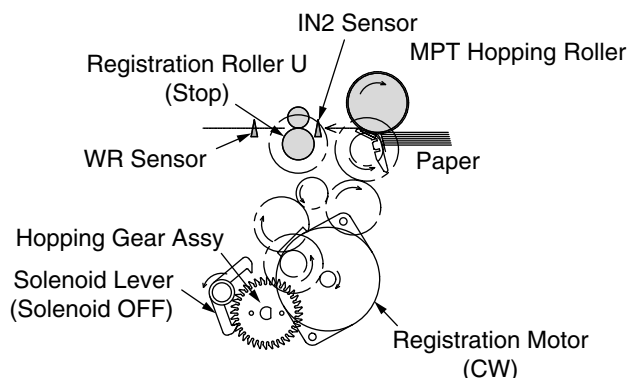

Figure 2-3
1. As illustrated in Figure 2-3, when the solenoid is OFF, the register motor rotates (Clockwise turn), transporting the paper until the IN2 sensor comes ON. (As the register motor rotates clockwise, the MPT paper feed roller is driven.)